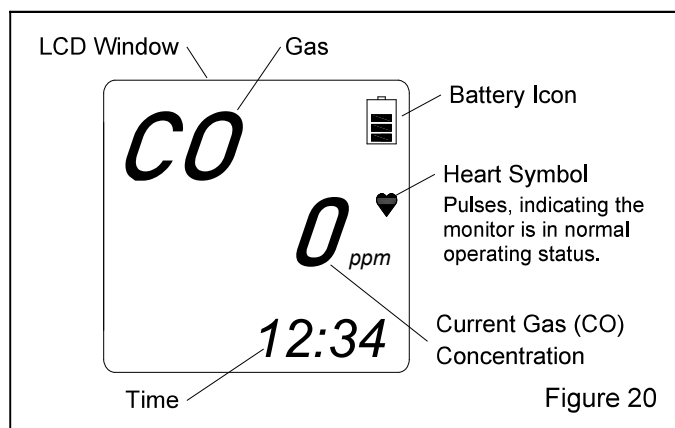

Figure 20
5.2.1.3 When the fresh-air baseline has been set, the LCD displays “Adj,” and a prompt to *RELEASE* the AIR button. The monitor beeps once and the screen displays 0 ppm, as shown in Figure 20.
5.2.2.6 When the fresh-air baseline has been set, the LCD displays “Adj,” and a prompt to *RELEASE* the AIR button. The monitor beeps once and the screen displays 0 ppm, as shown in Figure 20.